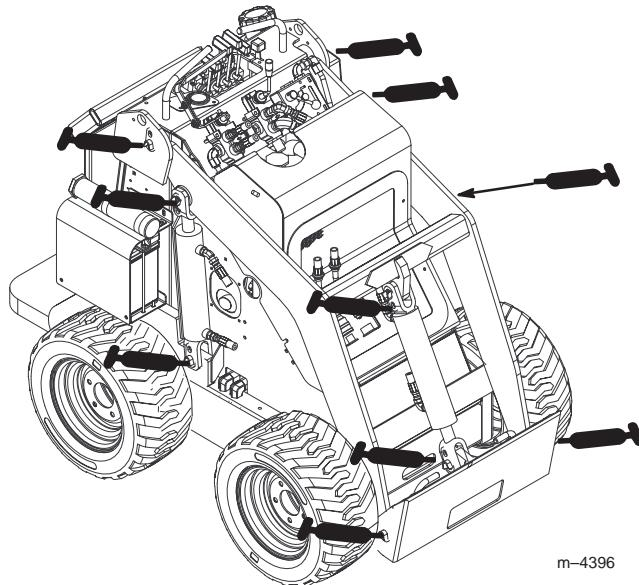

Figure 22
3. Connect a grease gun to each fitting (Fig 22 and 23).